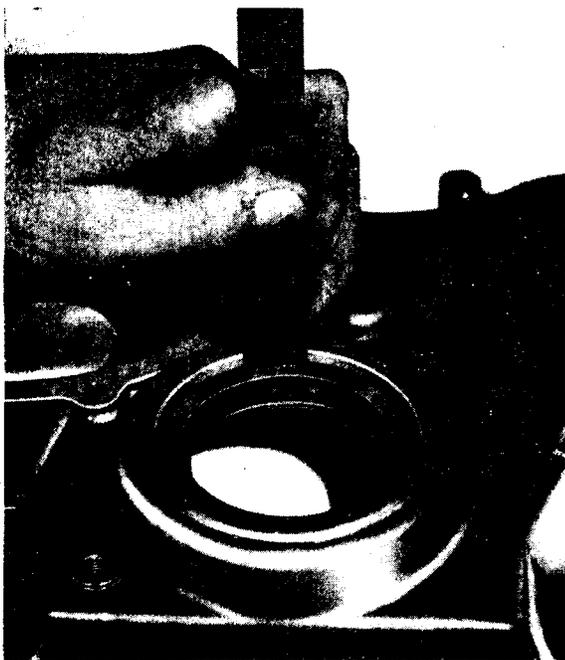

Fig. J.4.
2. Press the new seal into position from the front until the front face is 3/32 in (2,38 mm) below the front face of the timing case (Fig. J.4).